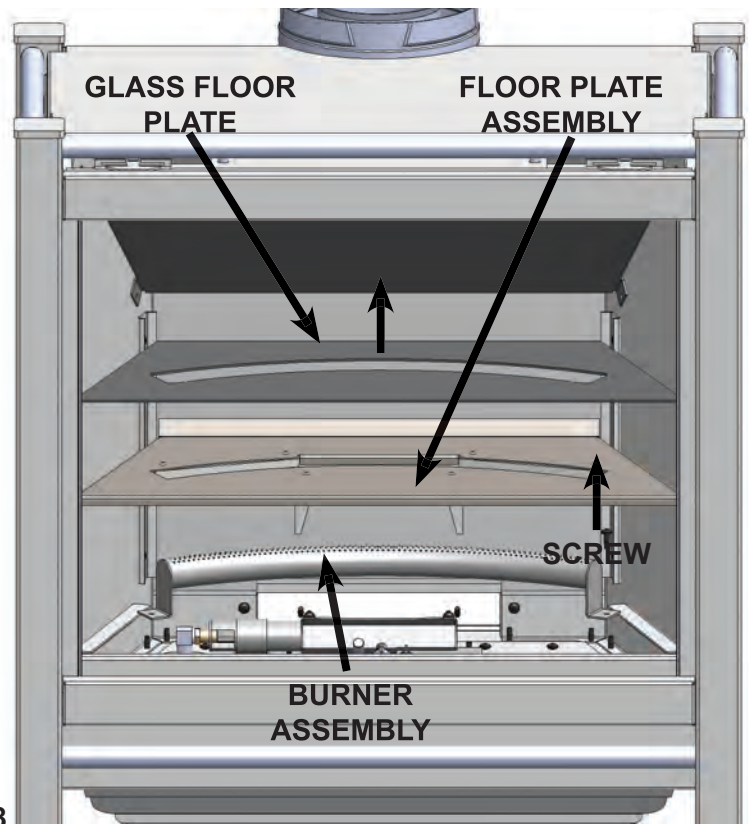

Fig.48
3. Remove the glass floor plate and set it aside. (Fig.48)
4. Remove the floor plate assembly and set it aside. (Fig.48)
6. Remove the screw from the right hand side of the burner assembly. (Fig.48)